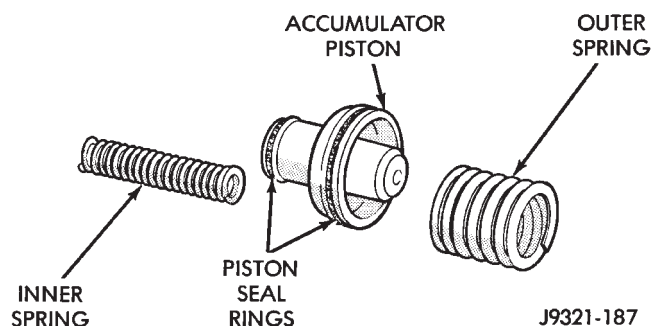

Fig. 15 Accumulator Piston And Springs
(4) Check condition of seals on accumulator piston (Fig. 15). Install new piston seals if necessary.